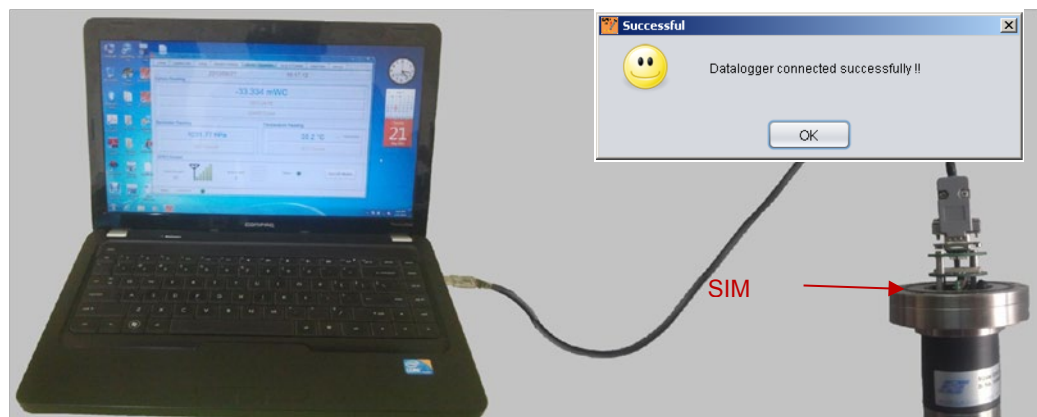

Figure 8-23: EWLR-101 Datalogger connecting to PC
- Connect the laptop and EWLR-101 datalogger through the USB to RS232 cable provided with the system figure 8-23.